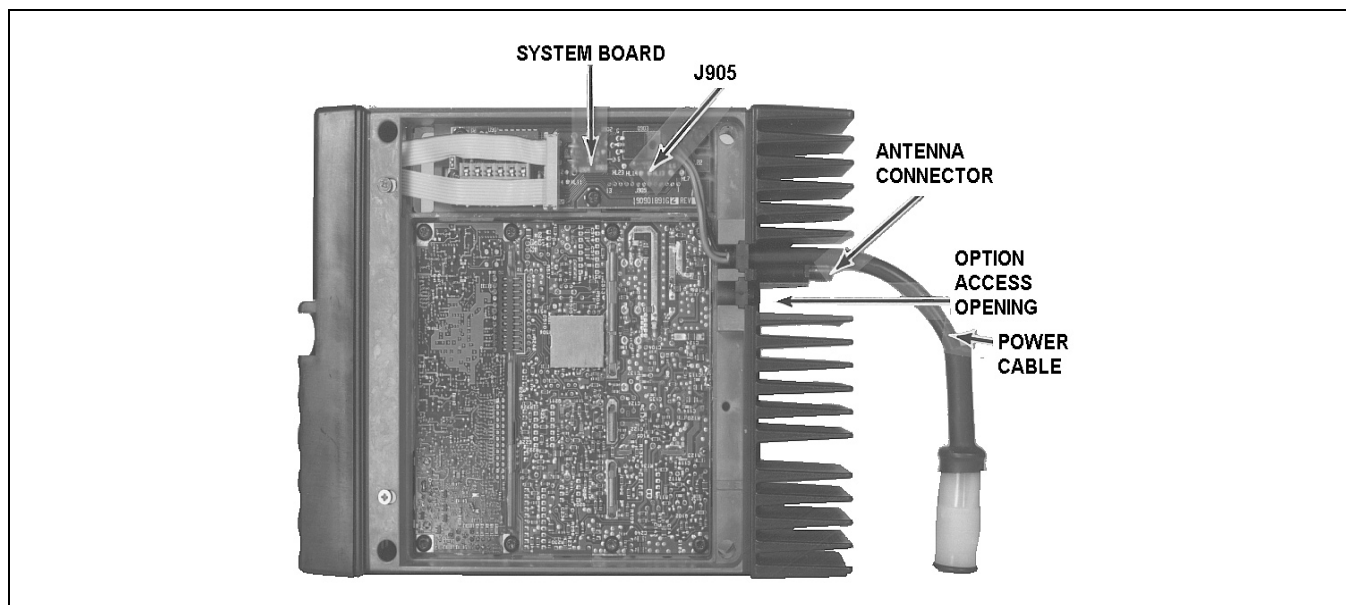

Figure 1 - Bottom View Of MDX With Cover Removed
1. Remove the four (4) screws on the bottom cover of the radio. Do not misplace the washers used with the screws; they seal the screw holes so the radio will meet the weatherproof specifications.
3. Remove the rubber plug in the slotted option access opening at the rear of radio. This opening is adjacent to the power cable "pigtail". See Figures 1 and 2.
4. Connect the Data Interface Cable to the System Board by plugging 16-pin single-in-line connector P1 to J905 on the System Board. See Figure 1. Connector J905 is a 16-pin connector and pin 14 is the keying pin. Verify P1 pin 1 connects to J905 pin 1.